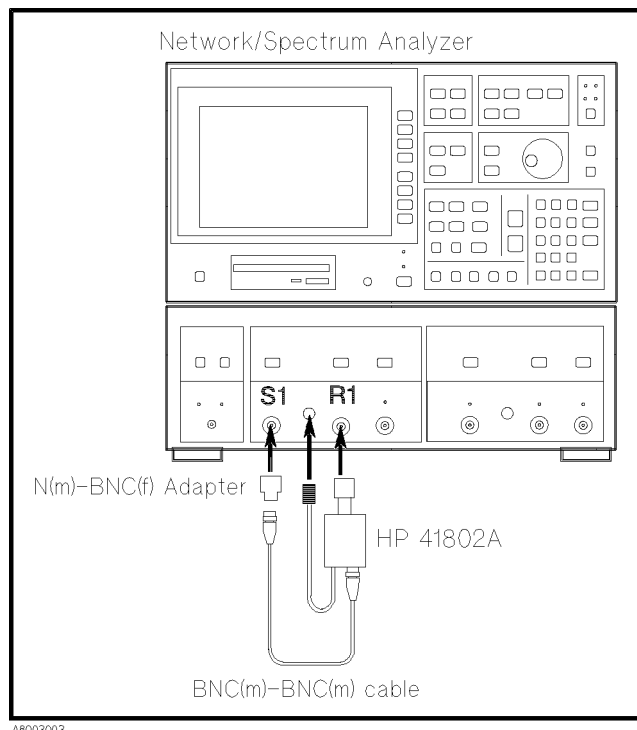

Figure 3-4. Operating Check Setup Using Network/Spectrum Analyzer
1. Connect the equipment as shown in Figure 3-4. Note that the probe power plug must be connected before the HP 41802A's N-type connector.